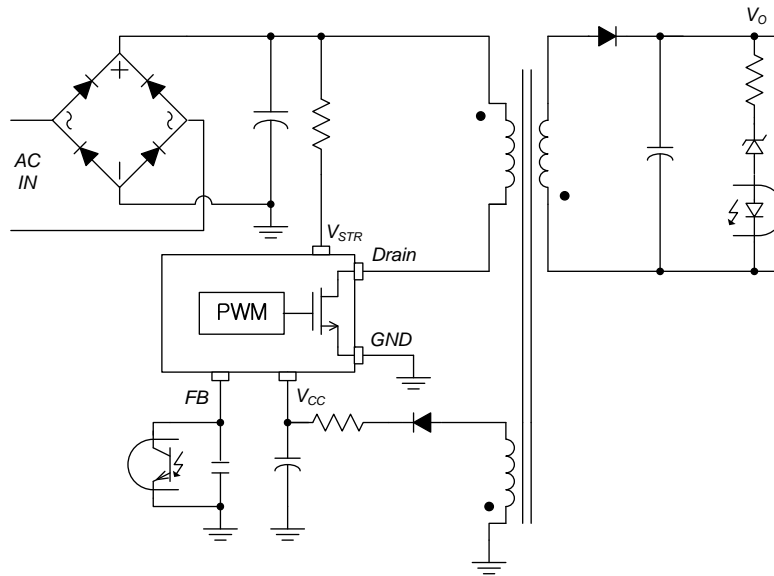

Figure 1. Typical Application Circuit
6. Repetitive peak switching current when the inductive load is assumed: Limited by maximum duty (D_{MAX}=0.74) and junction temperature (see Figure 1).